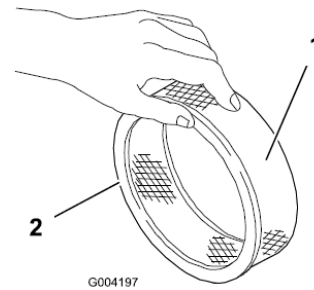

Figure 19
5. Lightly tap the paper filter on a flat surface to remove dust and dirt (Figure 19).